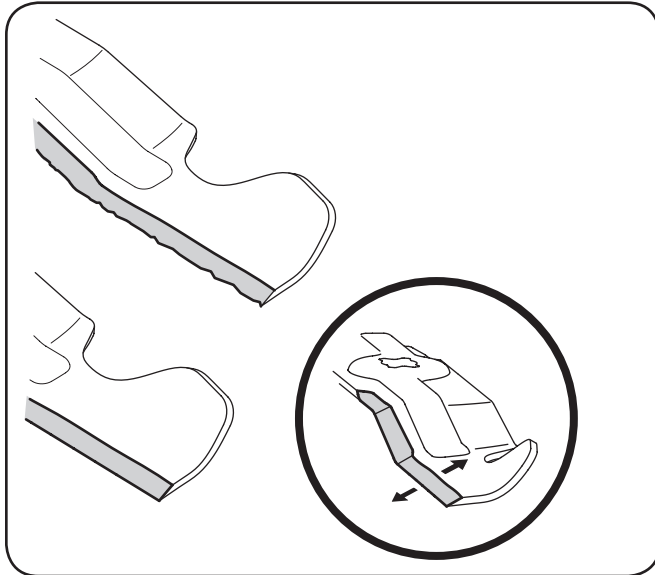

Figure 7-6
- To properly sharpen the cutting blades, remove equal amounts of metal from both ends of the blades along the cutting edges, parallel to the trailing edge, at a 25°- to 30° angle. Always grind each cutting blade edge equally to maintain proper blade balance. See Fig. 7-6.